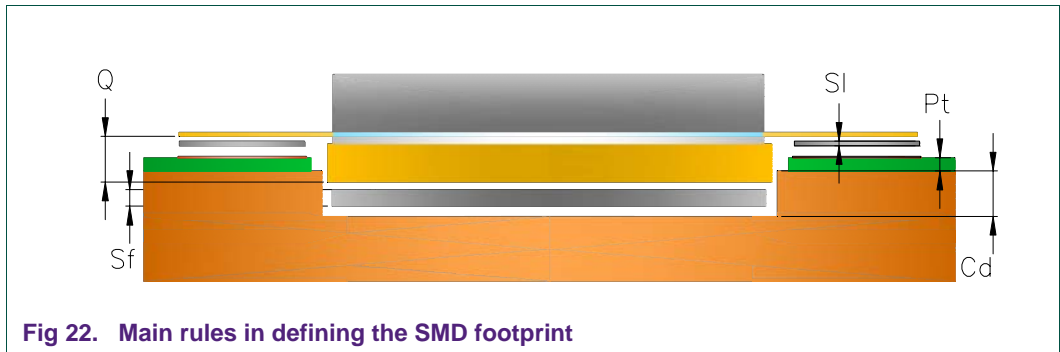

Fig 22. Main rules in defining the SMD footprint
- The PCB thickness (Pt, see Fig 22).